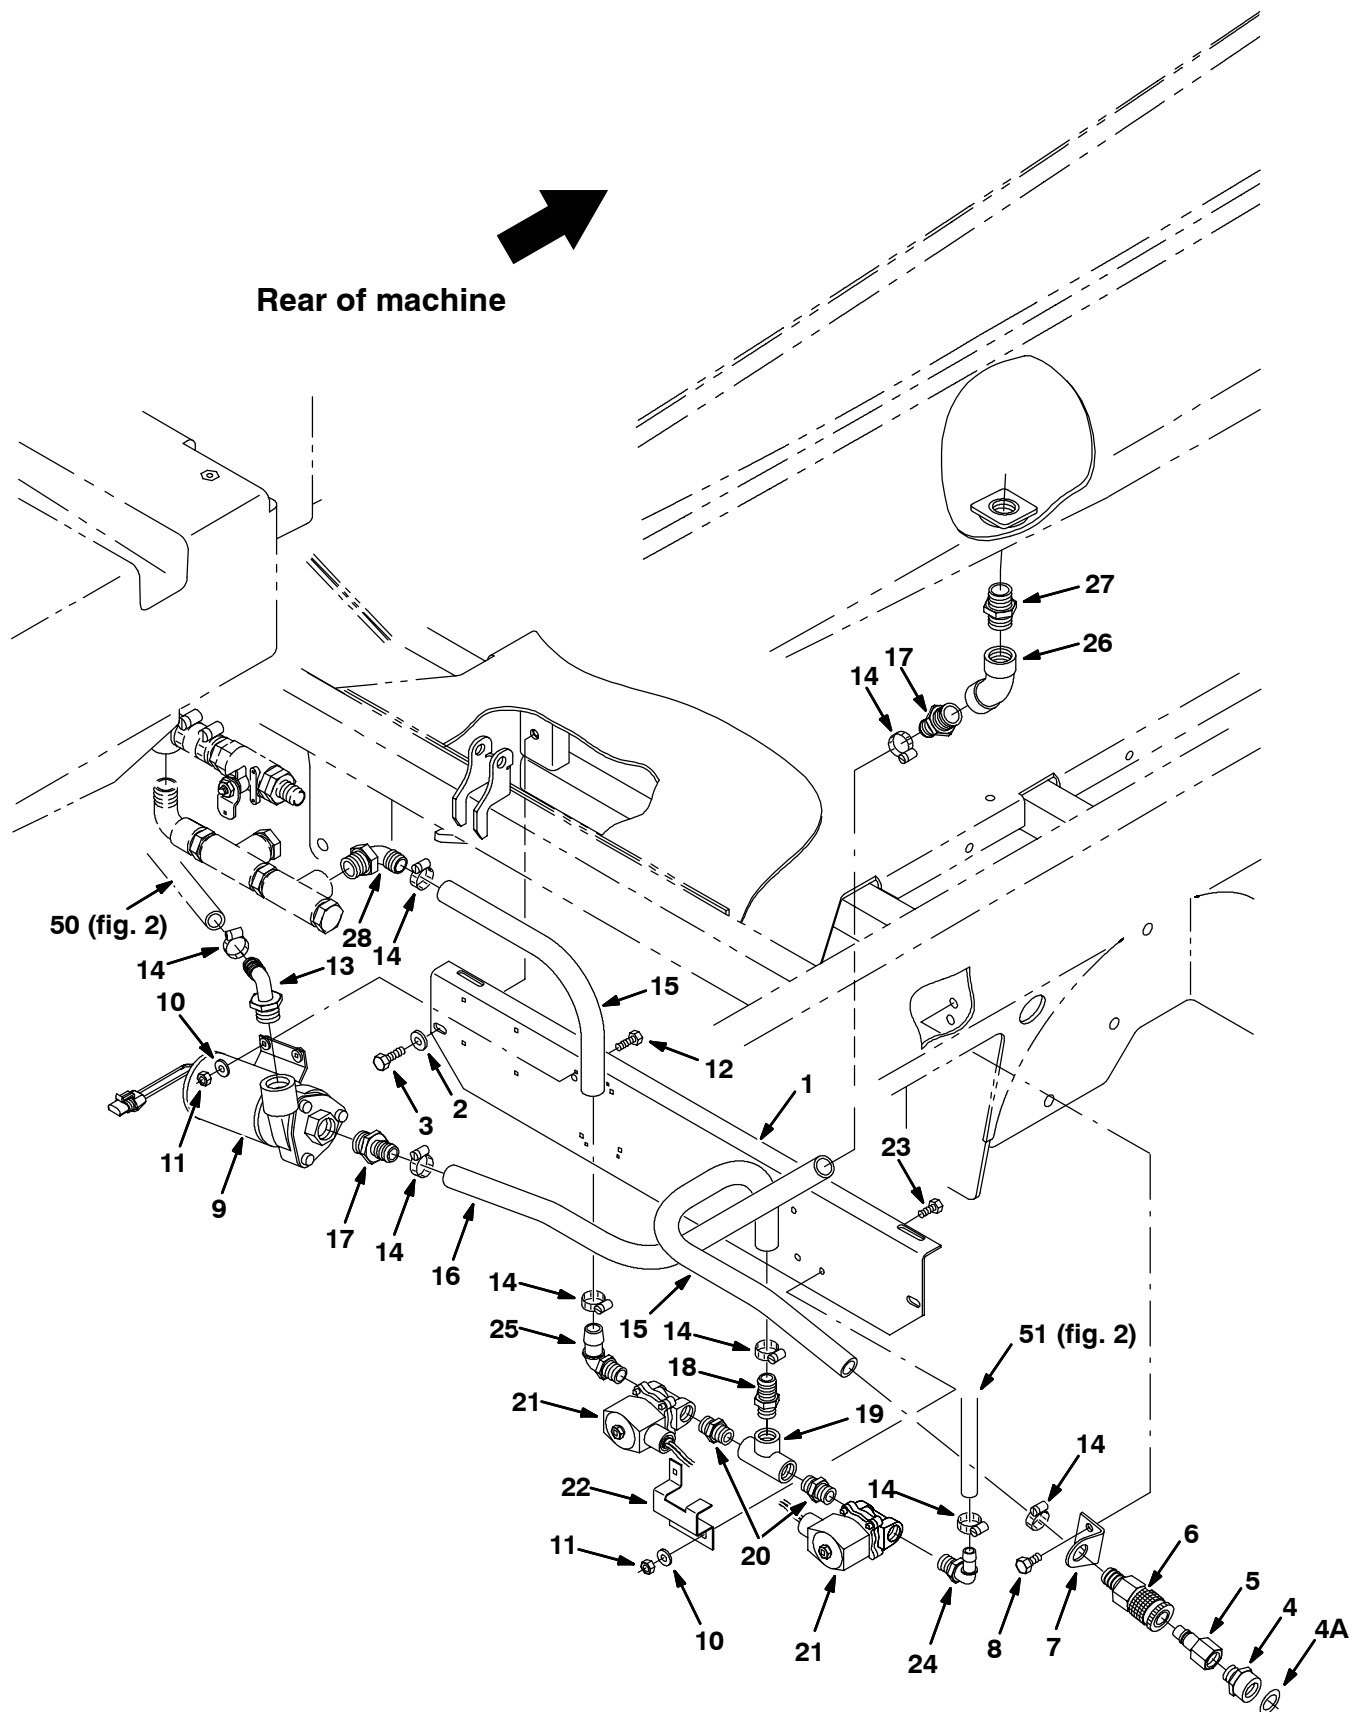

FIG. 3-ES™ Pump Group
1. Use two hex screws (3) and two washers (2) to mount the solenoid/pump assembly to the frame underneath the machine. (Refer to FIG. 3)
2. Use two hex screws (8) to mount the ES™ AutoFill mounting bracket (7) to the front of the left rear fender. (Refer to FIG. 3 and 7)
3. Locate the middle 19" PVC hose (15) on the solenoid assembly. Place the back end of the quick connect assembly (4, 5 and 6) through the mounting bracket (7). Connect the open end of the 19" PVC hose to the quick connect assembly (4, 5 and 6) with a hose clamp (14). (Refer to FIG. 3, 6 and 7)
5. Replace the removed plastic plug fitting with a plastic elbow fitting (28). Use a hose clamp (14) to connect the plastic elbow fitting (28) to the open end of the 19" PVC hose (15) connected to the solenoid (21). (Refer to FIG. 3)
6. Install a plastic straight fitting (27) to the bottom of the bulkhead fitting located at the bottom of the recovery tank. Connect the 45° plastic fitting (26) to the straight fitting (27). (Refer to FIG. 3)
7. Locate the open end of 26" PVC hose (16) from the solution pump (9). Connect the PVC hose (16) to the 45° plastic fitting (26) with a straight fitting (17), and a hose clamp (14). (Refer to FIG. 3 and 8)
9. Route the 55" hose (50) from the solution pump (9) up through the frame and up along the back side of the solution tank. (Refer to FIG. 3, 4, 9 and 10)
15. Route the 65" hose (51) from the solenoid (21) up through the frame and up along the back side of the recovery tank. (Refer to FIG. 3, 4 and 11)
BILL OF MATERIALS FOR FIG. 3, ES PUMP GROUP